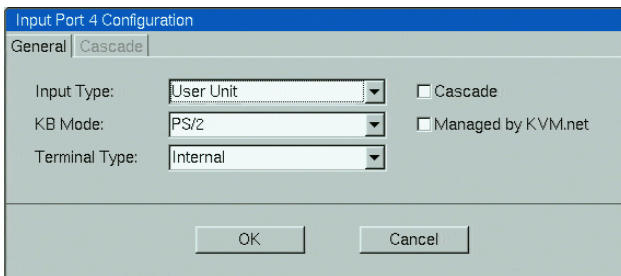

Figure 29 Configuration box
2. **Input Type** - From the menu select User Unit. The Configuration box now appears as in Figure 29.